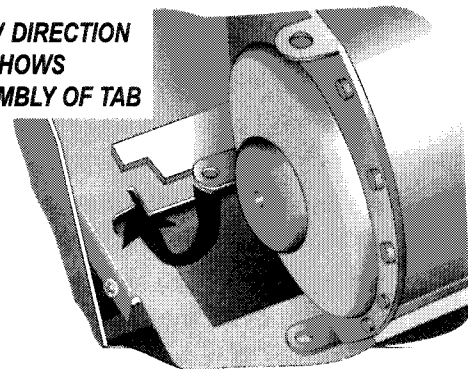

Fig. 26
3. Remove the cooling fan assembly by sliding it back approximately 1/4" to disengage the tabs from the slots in the rear insulation cover and lifting it up and away from the range. (Fig. 26)